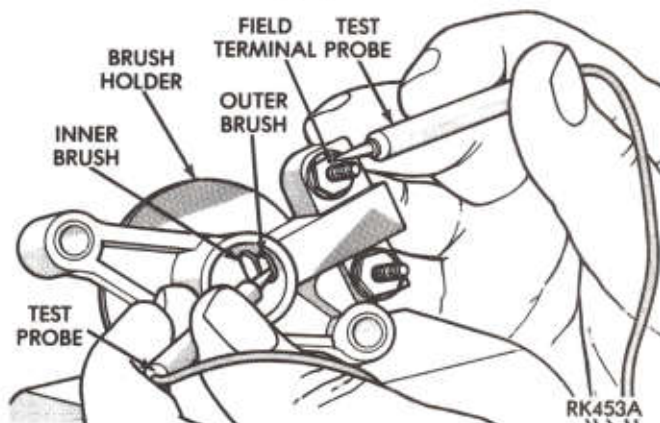

Fig. 1—Test Inner Brush Continuity
- (1) Verify that the brushes move smoothly in and returns fully to the stops when released. If not, replace the brush holder assembly.
- (2) Using an ohmmeter, test for continuity from the inner brush to the field terminals. One field terminal should be open and the other should be closed (Fig. 1).